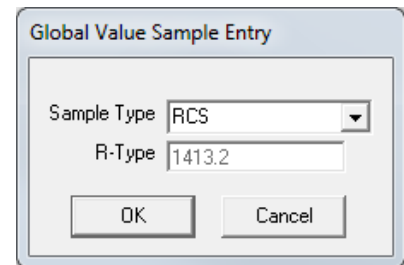

Figure B.13.1 GV_GetRType Prompt
- 2) Sample Type (optional): *If a valid Sample Type is specified, then the R-Type is automatically set based on the configuration established in Sample Administration Configuration on the Sample Types tab. If this parameter is omitted the dialog shown in Figure B.13.1 is displayed to allow the analyst to select the appropriate Sample Type. In addition to the pre-defined Sample Types displayed in the list the analyst may also enter any other Sample Types by typing in the dropdown field.*